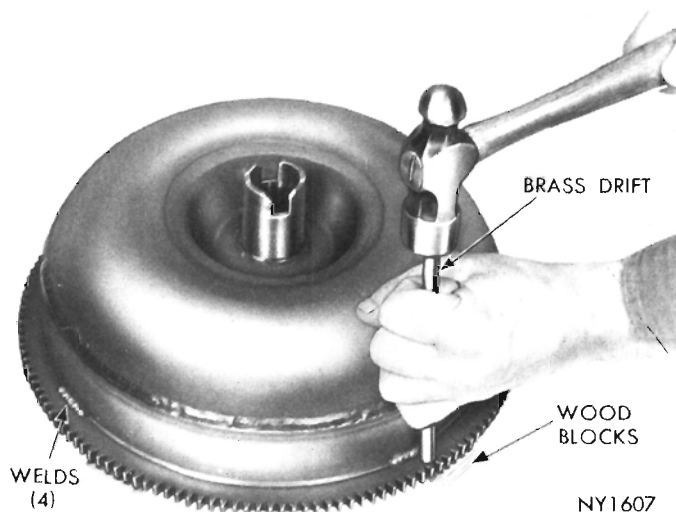

Fig. 40—Removing Starter Ring Gear
(1) Cut through weld material at rear side of ring gear with a hack saw or grinding wheel (Fig. 40). Be careful not to cut or grind into front cover stamping.
(2) Scribe a heavy line on front cover next to front face of ring gear to aid in locating the new gear.
(3) Support converter with the four lug faces resting on blocks of wood. **The converter must not rest on the front cover hub during this operation.** Using a blunt chisel or drift and hammer, tap downward on ring gear near welded areas to break any remaining weld material (Fig. 40). Tap around ring gear until it comes off the converter.
(4) Smooth off weld areas on the cover with a file.